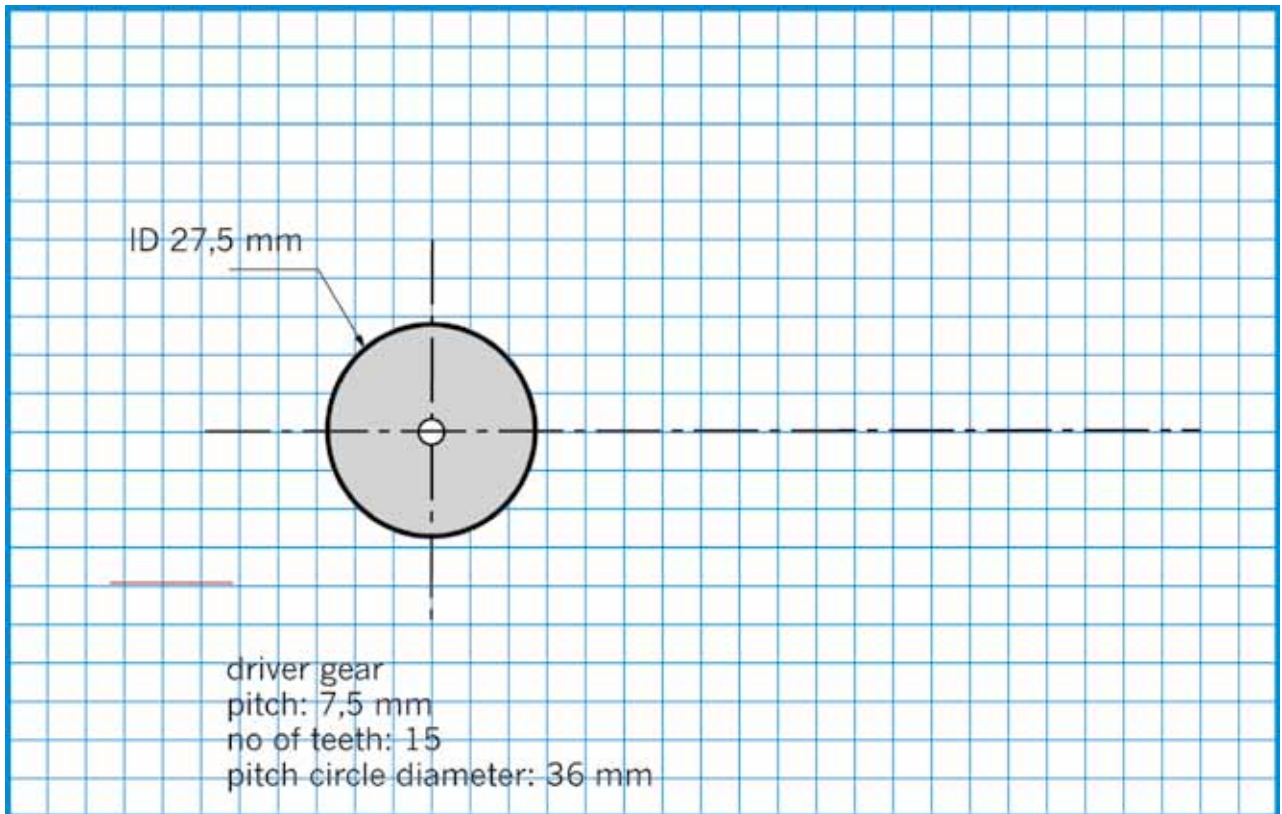

Figure 8: Draw the driven gear on the grid.
1. Use the steps on the previous page to draw a gear system with 15 teeth on a driver gear with a 36 mm diameter and 30 teeth on a driven gear with a 72 mm diameter. Use the grid paper in Figure 8. The driver gear drawing has been started for you.